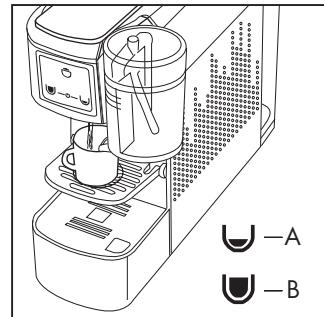

Fig. 11
Press one of the dispensing buttons (A) or (B) according to your taste (**Fig. 11**)